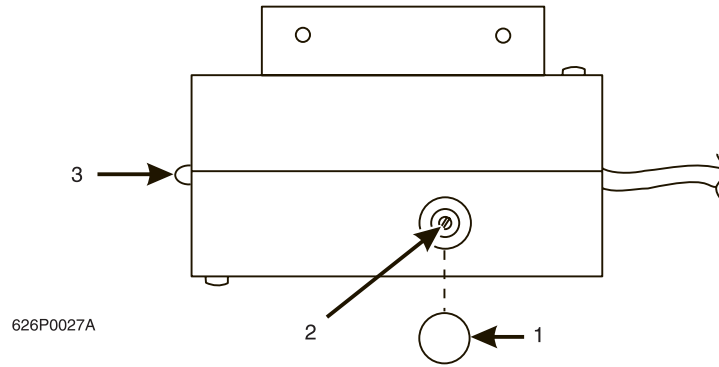

Figure B1
The sensor is equipped with an indicator light (see figure B1, item 3). This light will help you get the best results from the infrared mug/cup sensor.
1. Remove the plastic cap (see figure B1, item 1) in the rear of the sensing unit, exposing the potentiometer adjusting screw (see figure B1, item 2).